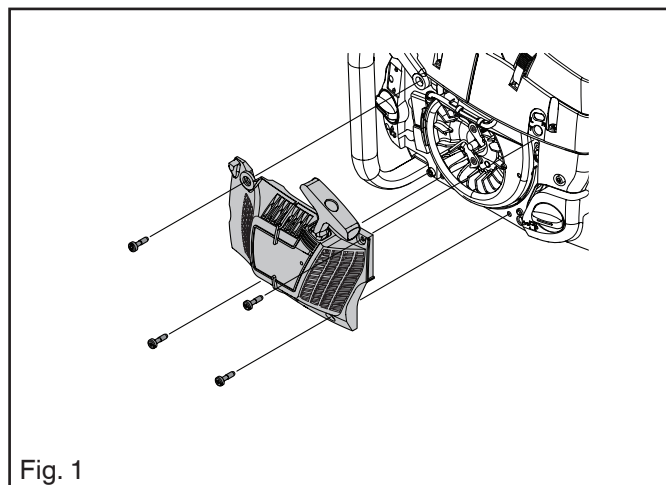

Fig. 1
4. Fit the throttle lock pivot (A) with the help of a driver. See fig. 1.
1. Remove the four bolts holding the starter to the crankcase and remove the starter. See fig. 1.